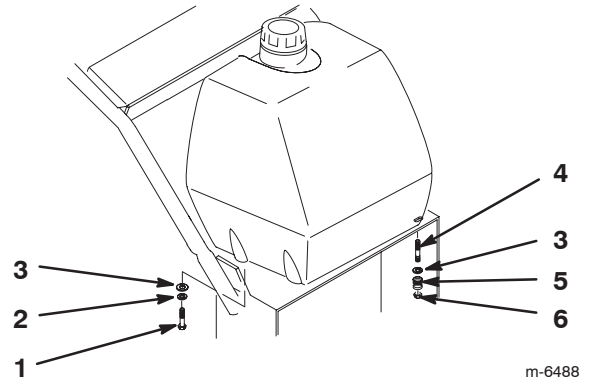

Figure 13
2. Align the fuel tank to the top of the rear frame, and secure the right side of the fuel tank with 2 bolts (5/16 x 3/4 inch), 2 lock washers (5/16 in.), and 2 washers (5/16 in.) (Fig. 13).
3. Secure the fuel tank studs to the frame with 2 washers (5/16 in.), 2 springs, and 2 locknuts (5/16 in.) (Fig. 13).